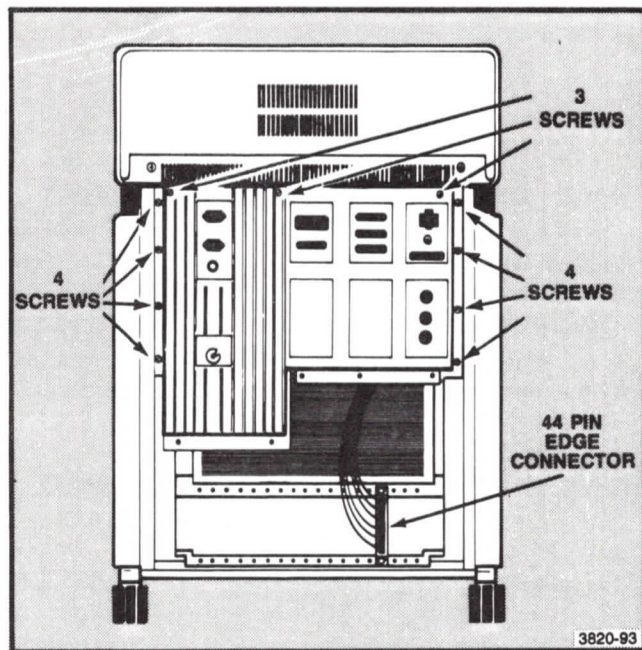

Figure 11-17. Removing the Inside Rear Panel.
9. Remove the eleven screws which hold the inside rear panel to the chassis. Note that three of these screws are a different size than the other eight. See Figure 11-17.